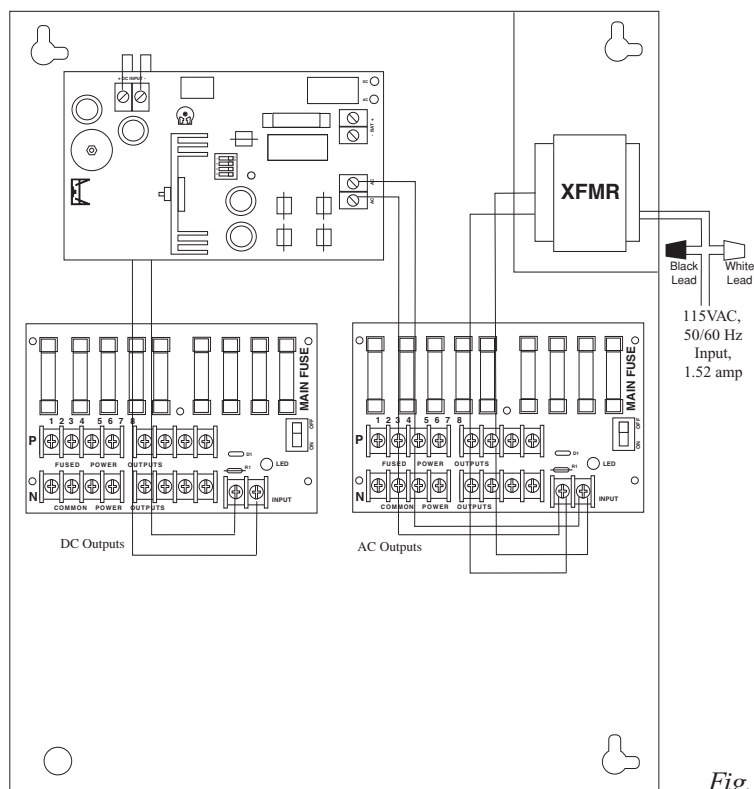

Fig. 1
- 3.5 amp supply current at 12VDC (*Fig. 1*).
- Eight (8) outputs @ 12VDC.
- 3.5 amp supply current at 24VAC (*Fig. 1*).
- Eight (8) outputs @ 24VAC.
- Main fuses are rated at 5 amp / 250VAC (*Fig. 1*).
2. Slide switch SW1 (*Fig. 1*) to OFF position.
3. Connect the AC (115 VAC 50/60 Hz) to the two black and white flying leads of the transformers (*Fig 1*).
5. Connect devices to output terminals using the following procedure (*Fig. 1*).
6. When batteries are being used the DC output voltage must be adjusted by turning the trim pot VR1 (*Fig 1*) clockwise to increase the output voltage to 13.7 VDC. Connect battery to terminals marked [- BAT +] (*Fig. 1*) on the unit (battery leads included).
7. Slide switch SW1 (*Fig. 1*) to ON position.